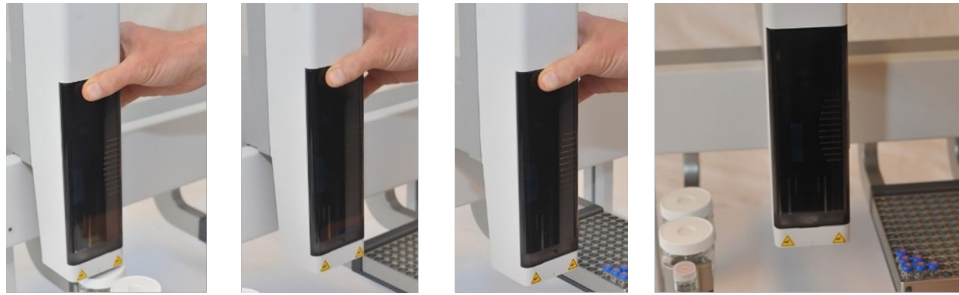

Figure 40: Autosampler Configurator/Tower Exchange Position
3. When the **Unpowered Status Message** displays, manually move the tower to the desired position where the user exchanges the syringe. For more information, see Figure 40.